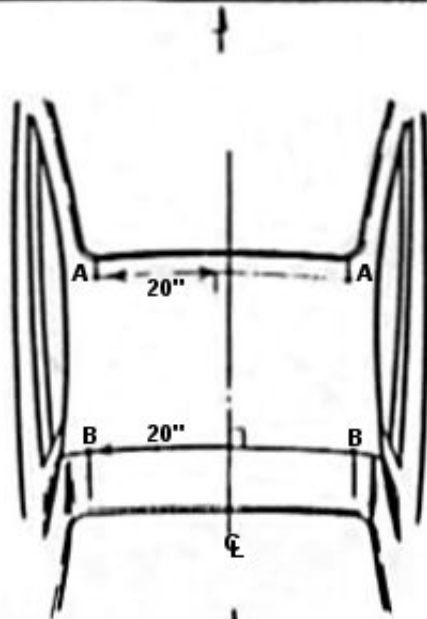

FIG. 1
1. MEASURE 20" PERPENDICULARLY OUTWARD FROM CENTERLINE TO ESTABLISH POINTS A, AS SHOWN IN FIGURE 1.
2. MEASURE 20" PERPENDICULARLY OUTWARD FROM CENTERLINE TO ESTABLISH POINTS B, AS SHOWN IN FIGURE 1.